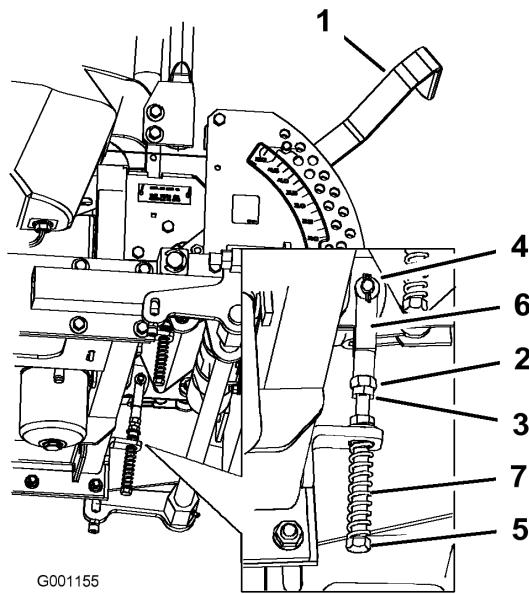

Figure 60
9. Apply slight rearward pressure on the motion control lever, turn the head of the adjustment bolt in the appropriate direction until the control lever is centered in the neutral lock position (Figure 60).
10. Tighten the nut and jam nut (Figure 60).
8. If adjustment is needed, loosen the nut and jam nut against the yoke (Figure 60).